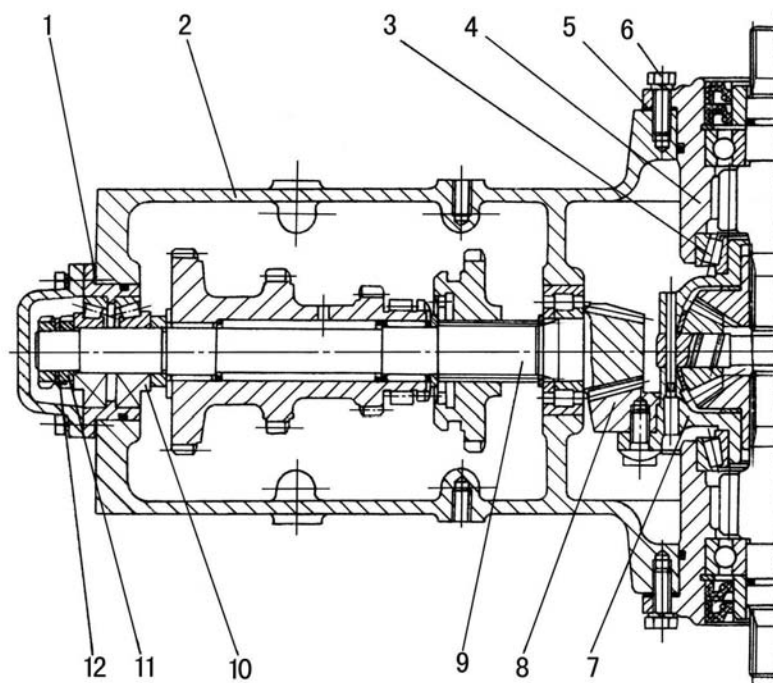

Fig.4-3 Main drive
During assembling there should be some preload on two conical bearings (3) 2007111 (on two ends of differential) and two conical bearing 27305(10) (on second shaft) (Fig.4-3) for
Reduce adjusting shim (1) of second shaft to make bevel pinion move backward . See Fig.4-3.